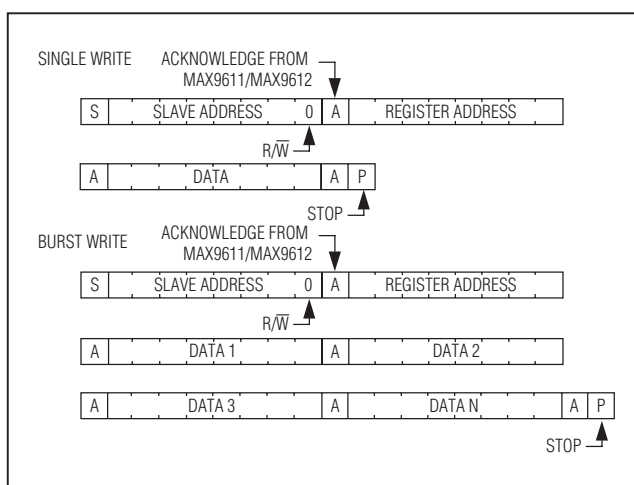

Figure 1. I2C Write Operation
A write operation (Figure 1) begins with the bus master issuing a START condition followed by seven address bits and a write bit (R/W = 0). If the address byte is successfully received, the MAX9611/MAX9612 (slave) issue an acknowledge (A). The master then writes to the slave and the sequence is terminated by a STOP (P) condition for a single write operation.
The five 12-bit data registers banks comprise two 8-bit registers for 8 MSBs and 4 LSBs. The 12-bit data is split between the two 8-bit data bytes as seen in Figure 1. They are read-only registers that hold the converted data. Do not issue a STOP command until both bytes are read. Instead use a Repeated START command to read the second byte.